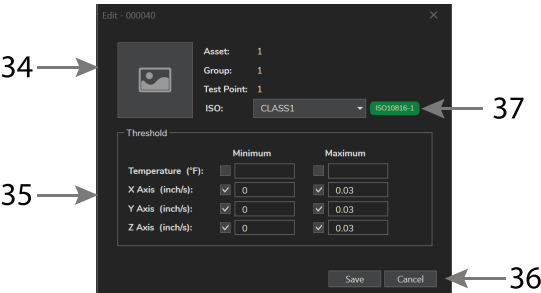

Figure 10.7 Click the edit pencil to open this sensor options screen.
- 28. Click the pencil to open the EDIT window (shown below in Figure 10.7).